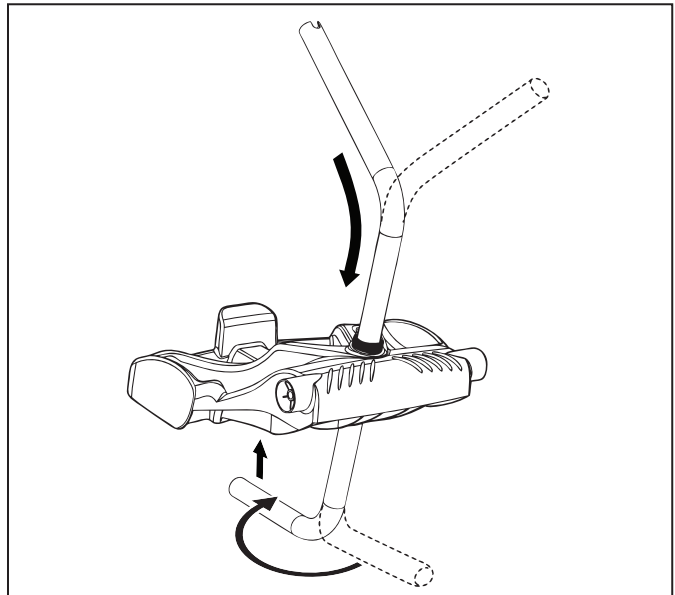

Figure 3. Connect Metal Frame to Base Unit
2. Insert the metal handle frame tubing into the base with notch end at the top, then rotate so the bends are away from you. (Figure 3).
3. Push base down (Figure 3) so the metal handle frame is seated in the recess on the underside of the base.